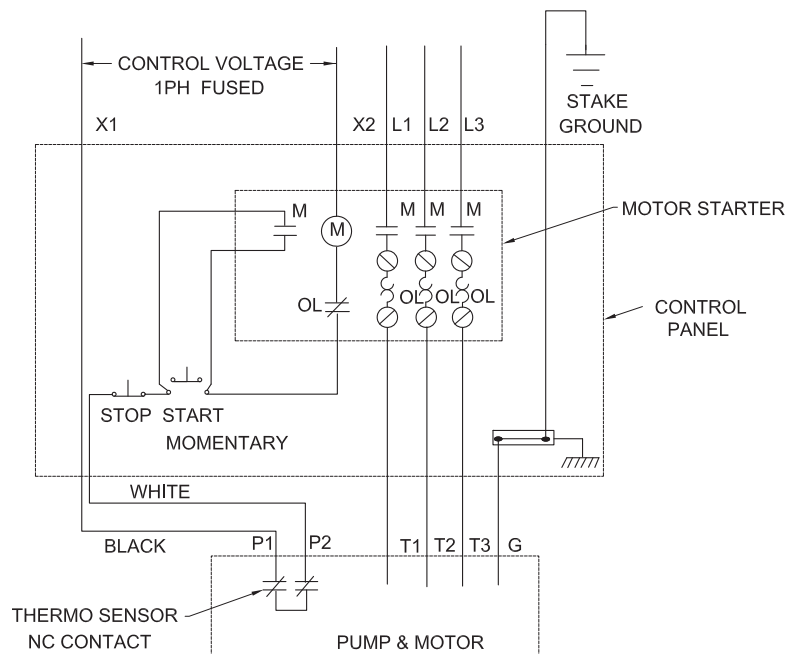

FIGURE 4
Current sensing overloads must be provided in the pump control panel and should be properly sized for the full load current of the pump. Three normally closed (N/C) thermal sensors wired in series (one per phase) are embedded in the motor windings and will detect excessive heat in the event an overload condition occurs which will then trip and stop the pump when wired in series with the pump contactor control circuit. The thermal sensor leads marked P1 and P2 **MUST** be connected in series with the stop button of the pilot circuit of the magnetic motor controller located in the control panel so that the thermostat will open the circuit before dangerous temperatures are reached. A manual momentary start switch is required to prevent the automatic restarting of the motor when the thermostat resets. For a typical wiring diagram, refer to Figure 4.
A normally open (N/O) detector is installed in the pump seal chamber, which will detect any moisture present, and a continuity test resistor built into the motor. The test resistor is rated 1 watt at 330K ohms. The moisture sensors **MUST** be connected to moisture detector control in the control panel which includes a continuity test circuit, see Figure 4 for typical wiring diagram. The normally closed (N/C) contact of the moisture detector **MUST** be connected in series with the stop button of the pilot circuit of the magnetic motor controller. Wiring must be provided from the moisture detector sensor probe leads of the motor designated W1 and W2 to terminals 9 and 10 of the 2800-XXX control. Terminal pair 1-2 must be continuously energized from an A-C supply line of electrical characteristics shown on the data table. In the event of moisture detection, the pump should be pulled and the source of the failure located and repaired. **IF MOISTURE DETECTION HAS OCCURRED, SCHEDULE MAINTENANCE AS SOON AS POSSIBLE !**
- b. A temperature sensing circuit (See Fig. 4)